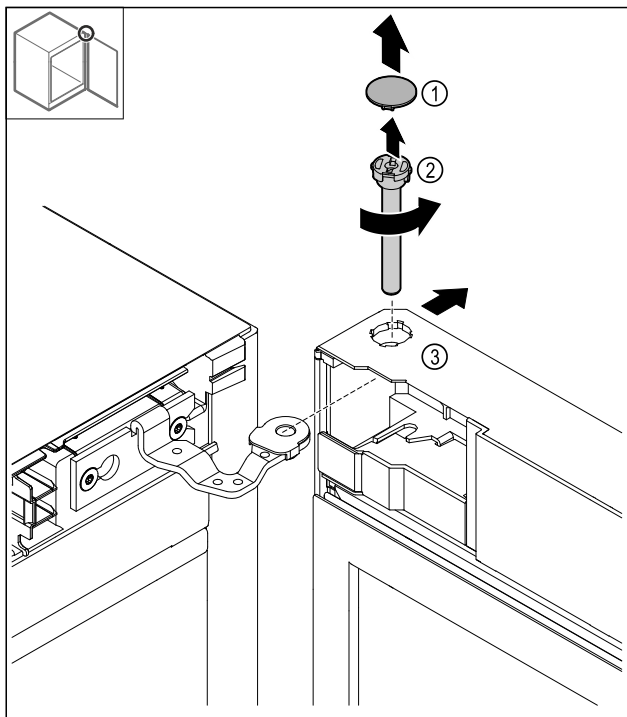

Fig. 19
- Removing the cover Fig. 19 (1).
- Loosen the bolt Fig. 19 (2) anti-clockwise and pull it out.
- Tilt the door Fig. 19 (3) slightly.